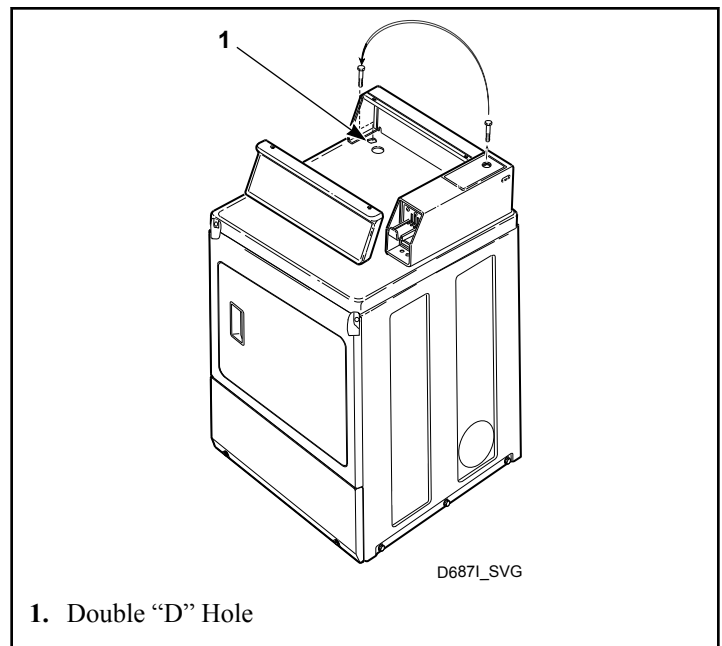

Figure 33
1. Remove the Phillips head screw from service door (refer to *Figure 33*).